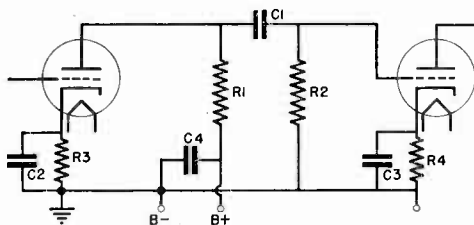
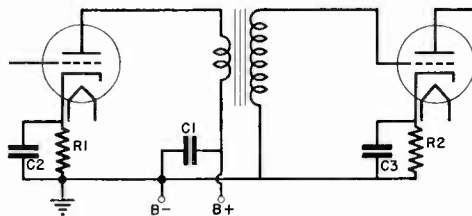
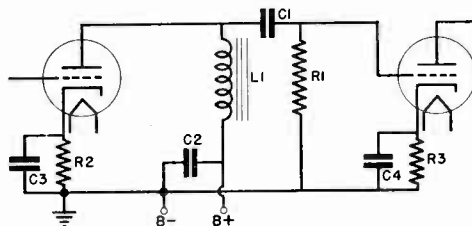

Fig. 2-97
Fig. 2-98
Fig. 2-99
*Ans.* Refer to Fig. 2-97.
*Ans.* Refer to Fig. 2-98.
*Ans.* Refer to Fig. 2-99.
In Fig. 2-99, choke coil  $L_1$  is the plate load impedance. Condenser  $C_1$  passes the signal to resistor  $R_1$  and thus to the following stage. The other parts have the same purposes as similar ones used in Fig. 2-97 and Fig. 2-98.